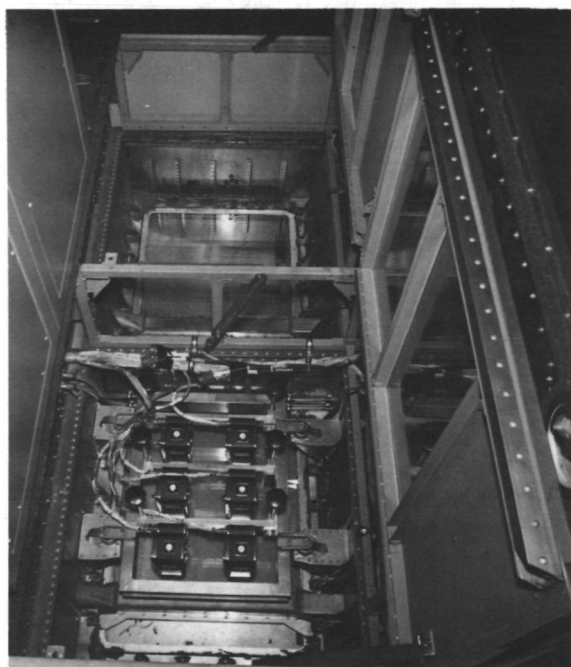

FIGURE 10. Six Hasselblad EL cameras for multispectral aerial photography.
(2) A gang of two or more cameras may be used to record with various lens-filter combinations simultaneously. Such an arrangement could employ several large-format aerial mapping cameras (figure 9) or, as I have seen, up to 12 of the 70-mm Hasselblad EL cameras (figure 10). In the Manned Spacecraft Center's Earth Resources Survey Program, multispectral photography has been successfully secured using the following camera systems: